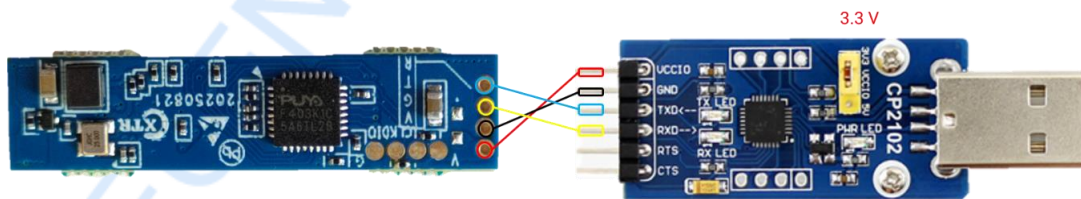

Figure 4-3 Example of connecting the Xen202TH hardware to the USB serial port tool
- c) Connect the XenP202TS module to the serial port tool using a connecting cable. The connection method is shown in Figure 4-3;